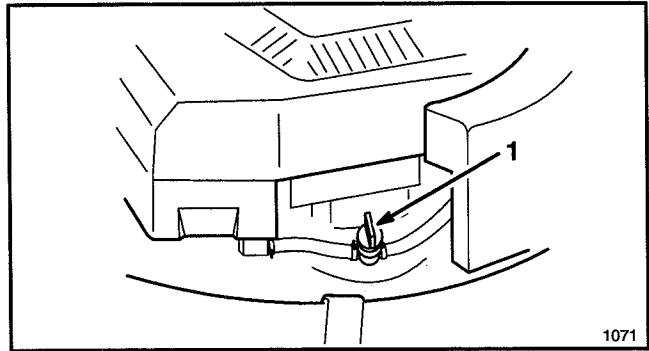

Figure 9
4. Open fuel shut-off valve on engine (Fig. 9).